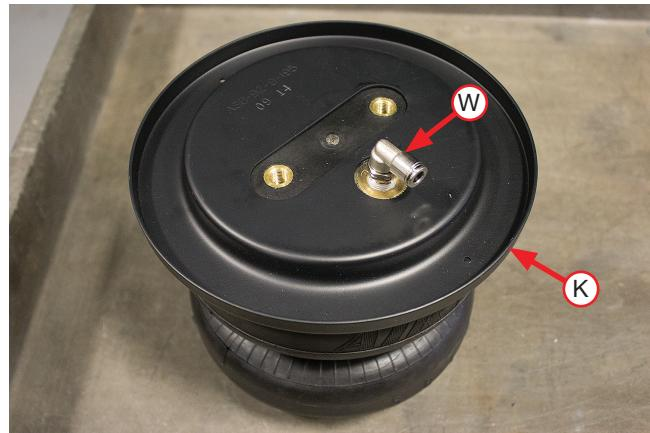

Fig. 7
1. Install the swivel elbow fitting (W) into the top of the air spring finger-tight. Tighten the swivel fitting an additional one and a half turns. Place a roll plate (K) on top of the air spring (Fig. 7).